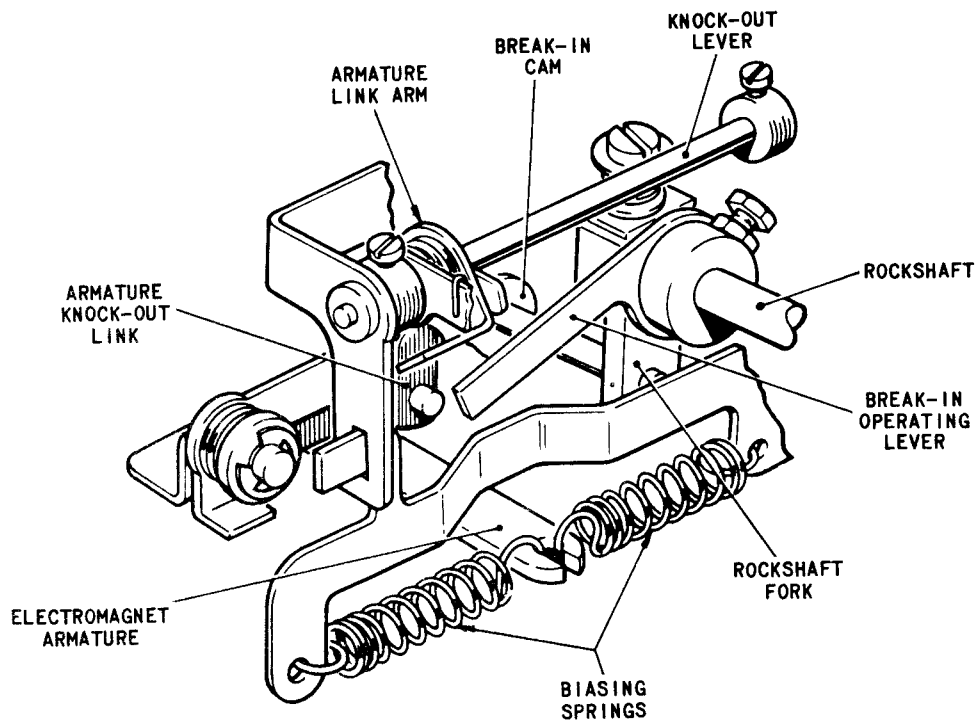

Fig. 2.3 ELECTROMAGNET/SELECTOR UNIT LINKAGE
- Fig.2.3 Electromagnet/Selector Unit Linkage
- 1.2 Disconnect the biasing springs, Fig.2.3, from the electromagnet armature.
- 2.2 With the machine in the rest position, slacken the two screws (one at each end) clamping the knock-out lever, Fig.2.3, and lower the armature knock-out link so that its hole locates over the central pin on the armature link arm. Position the knock-out link so that the pin on the end of the link arm is fully coupled to the rockshaft fork and tighten the knock-out lever screws, ensuring that the end-play on the lever is kept to a minimum.